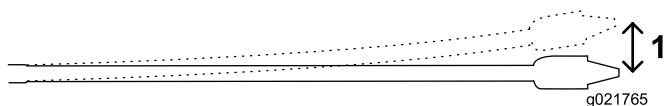

Figure 25
The 3 m (10 ft) pipes used on this machine can flex to an 8% pitch over the length of the pipe; this equates to a bend of no more than 20 cm (8 inches) off of a straight path (Figure 25).
- You insert the first 3 m (10 ft) of drill bit/pipe into the ground with no steering. The end of the drill bit will be 76 cm (30 inches) deep (Figure 25).